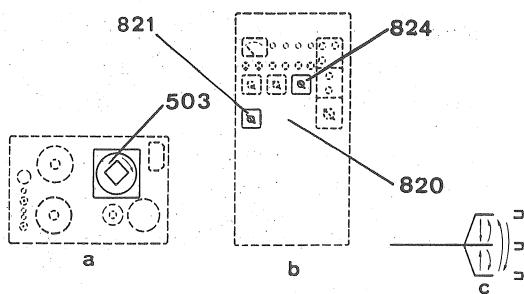

Fig 22
15. Switch power on by means of the main switch (821) and start the pump (503) of the dielectric circuit (fig. 22 a & b) by means of its switch (824) which is located on the control panel (820) of the generator (fig. 22 b). Check, immediately, that the pump is rotating in the direction indicated by the arrow on the pump housing. If the direction of rotation is that indicated, let the pump operate for a few moments. If the pump is rotating in the reverse direction, immediately stop the pump and switch two of the 3-phase leads of the mains power line (fig. 22 c).